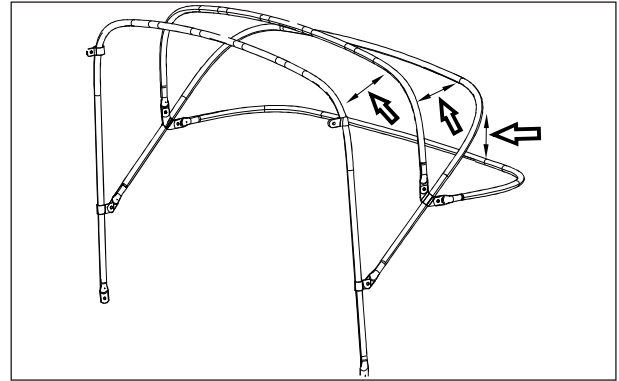

Fig. 9.12
- Spread the soft top complete rear 'C' pillar and position the front and rear equal distance from frame center. (Fig. 9.12)